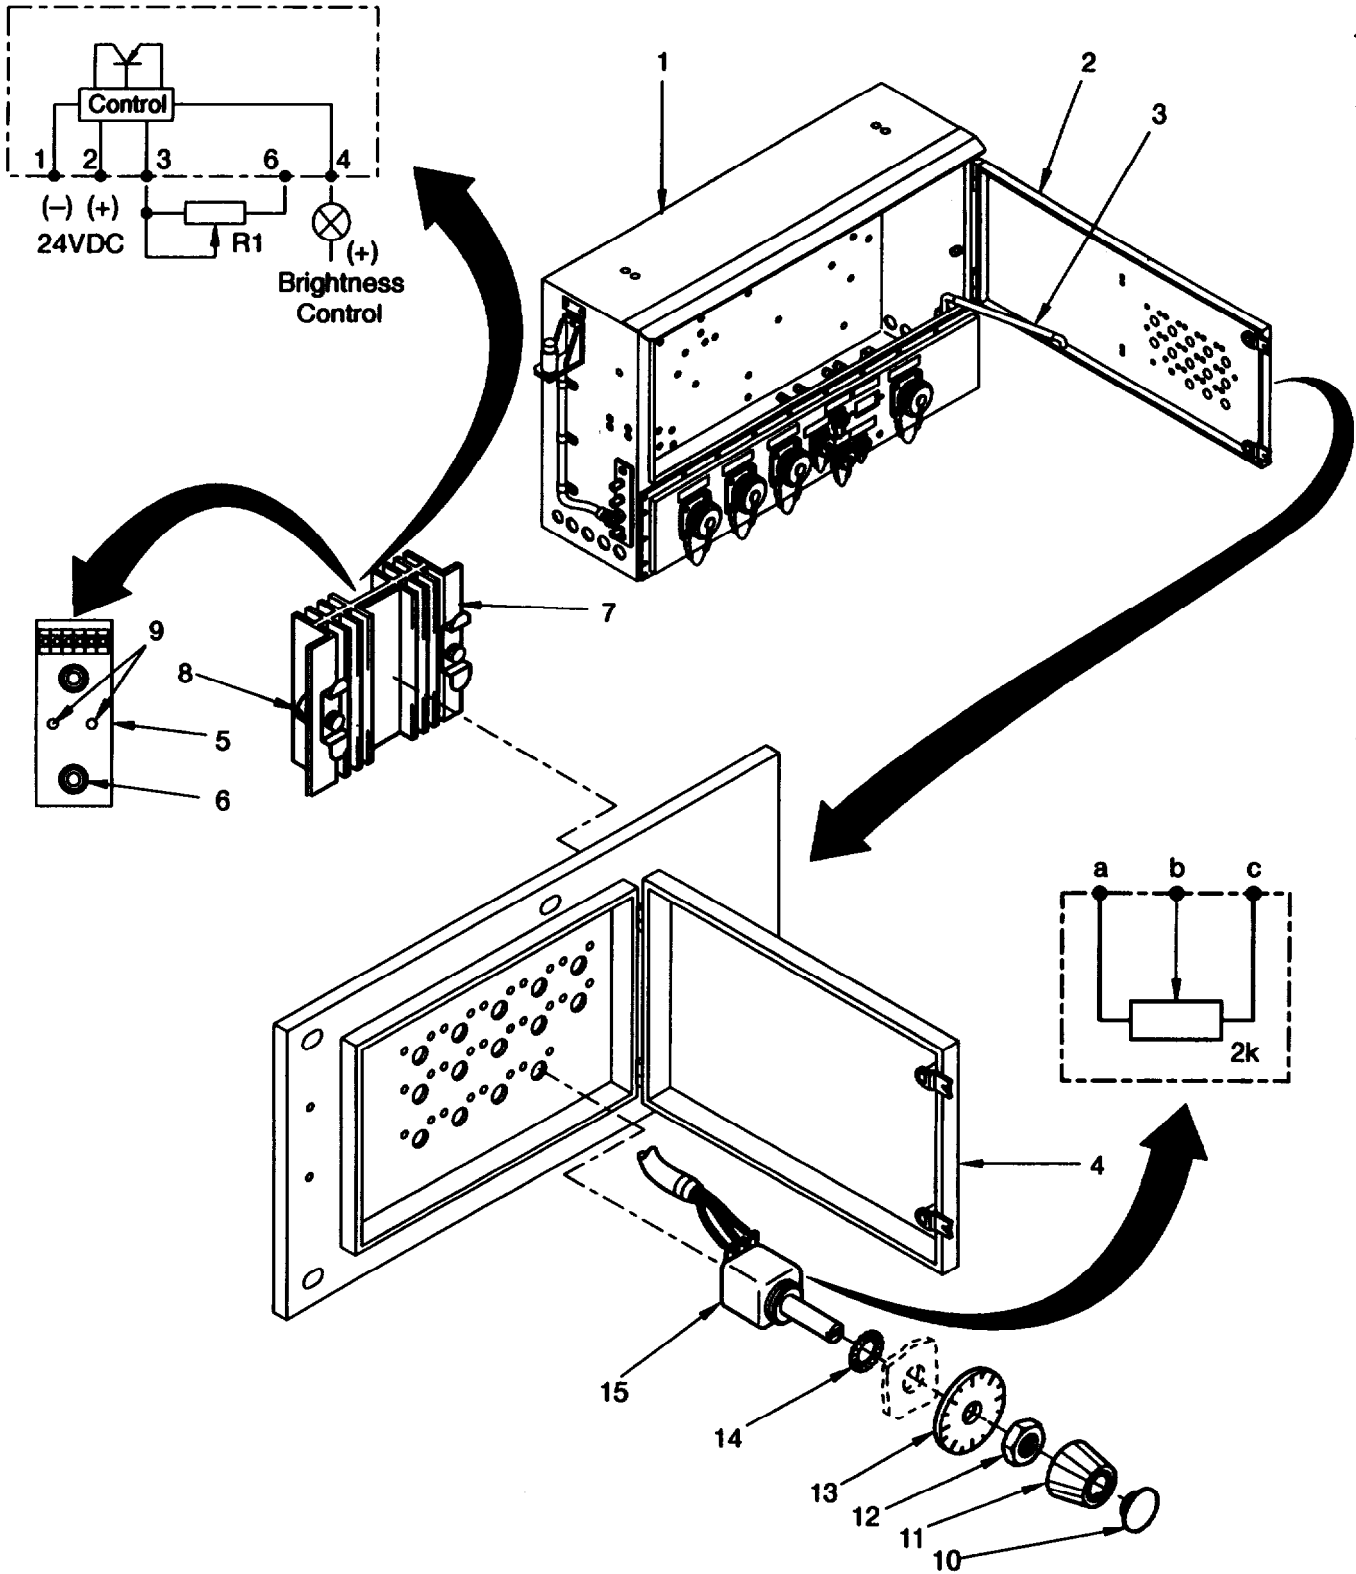

Figure 4-40 Brightness Control N7/R1.
- a. Remove stanchion by PDU (1, figure 4-40).
- b. Open access door (2) and secure with prop (3).
- d. Open indicator panel cover (4).